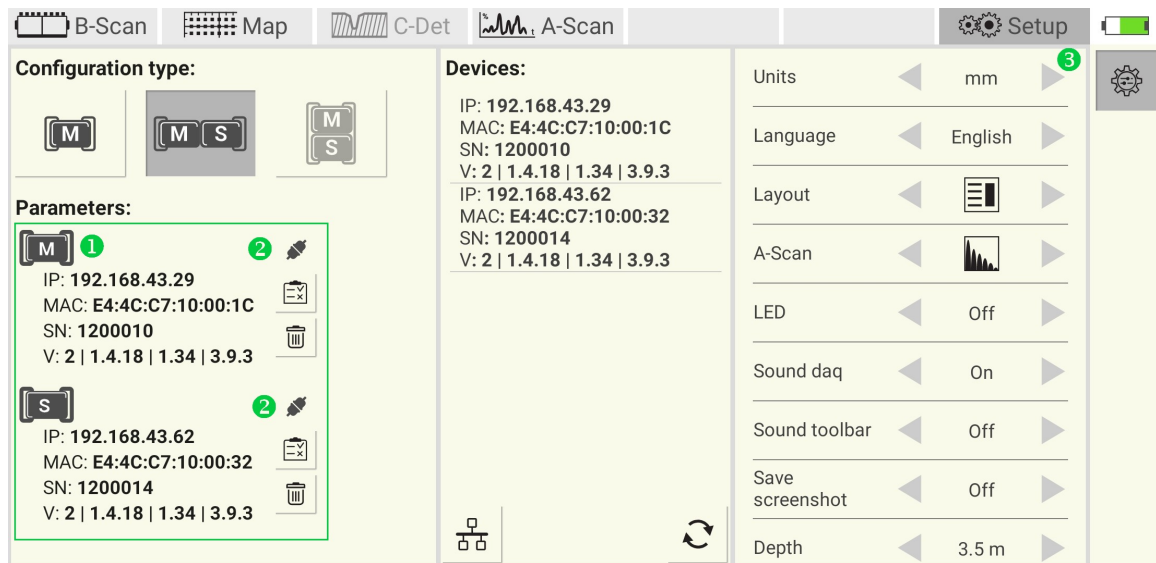

Figure 24: A1040 MIRA 3D PRO connection
After successful connection the panel ① shows parameters of the master and the slave devices. The indicator ② changes from to . The battery indicator ③ changes its status from disconnected to power, Figure 24.